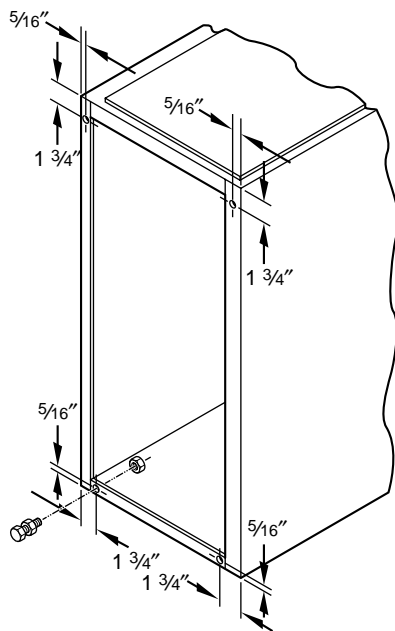

Fig. 20—Leveling Legs
When furnace is used in upflow position with side inlet(s), leveling legs may be desired. (See Fig. 20.) Install field-supplied, corrosion-resistant 5/16-in. machine bolts and nuts.
1. Position furnace on its back. Locate and drill a 5/16-in. diameter hole in each bottom corner of furnace. (See Fig. 20.) Holes in bottom closure panel may be used as guide locations.